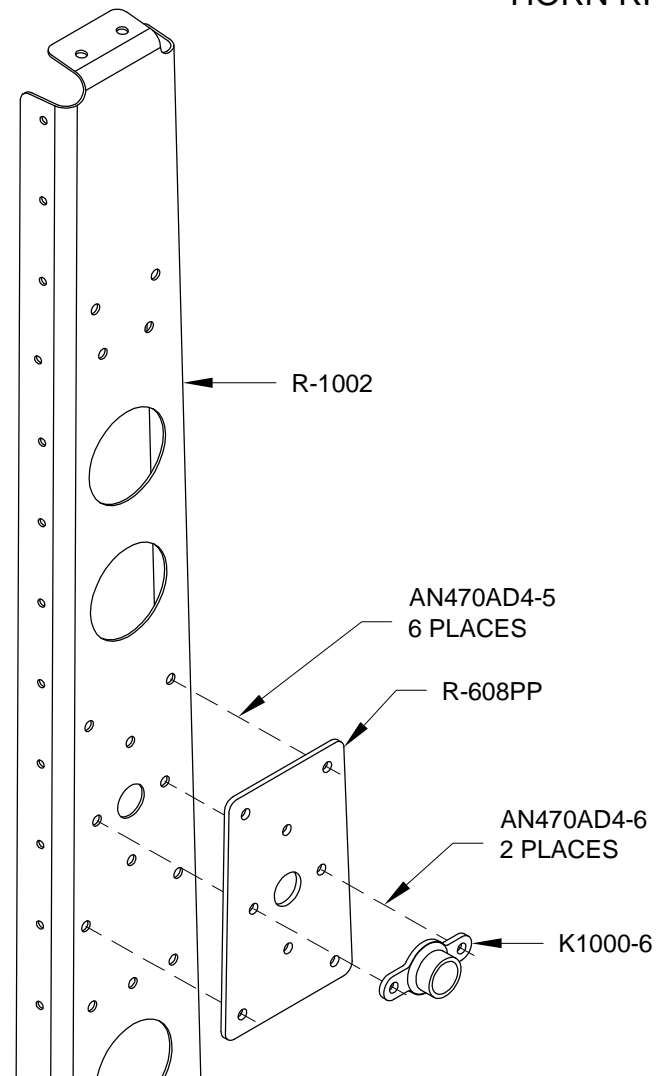

FIGURE 2: REINFORCEMENT PLATE RIVETS
Step 4: Repeat step 3 for the R-607PP Reinforcement Plate (as located on Page 7-5, Figure 2) using the same rivets and an additional nutplate.
Step 5: Back rivet (see Section 5F) all the R-1015 Stiffeners to the R-1001 Skins, as shown in Figure 2, using the rivets shown on page 7-12, Figure 3. Riveting tape, which is very useful for holding rivets in place while back-riveting, is available from the Van's Aircraft Accessories Catalog.